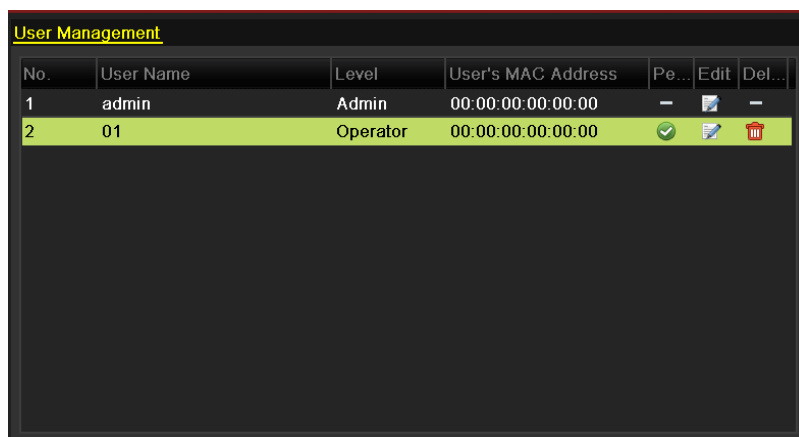

Figure 13. 9 User List
2. Select the user to be deleted from the list, as shown in Figure 13. 9.